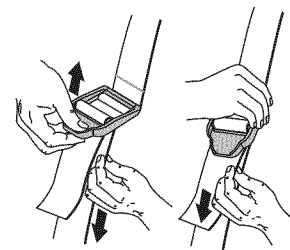

Fig. 12
4. Adjust length to fit the operator's size. Pull tab to lengthen, pull strap to shorten (Fig. 12).